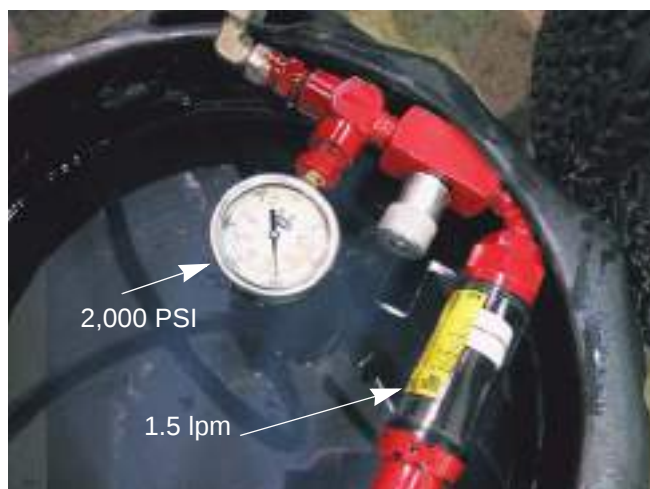

Figure 3.19
- F. Slowly close the needle valve to build 2,000 PSI (220 Bars). See Figure 3.19.